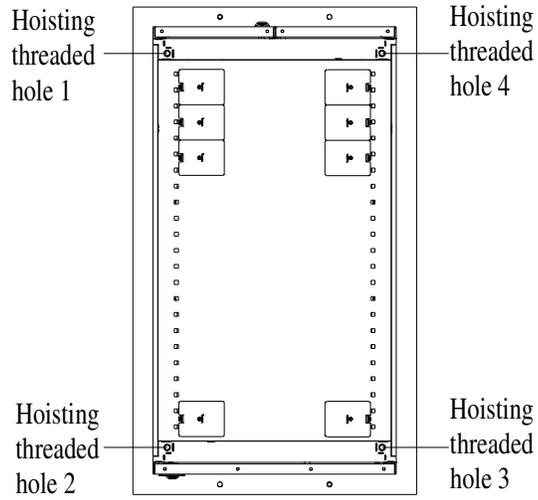
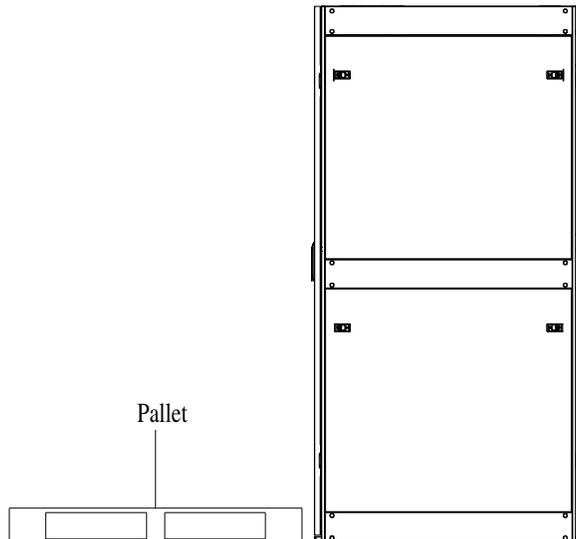

Figure 2-10 Rack Hoisting Hole
Figure 2-11 Removing the Pallet
2. As shown in Figure 2-10, VE series racks are equipped with four M12 hoisting threaded holes at the top of the rack (hoisting ring needs to be owned by the user) to remove the 2200mm height rack from the pallet using cranes or other booster equipment, as shown in Figure 2-11. During the disassembly personal safety must be taken into consideration, prevent rack from dumping in order to avoid serious injury to people.